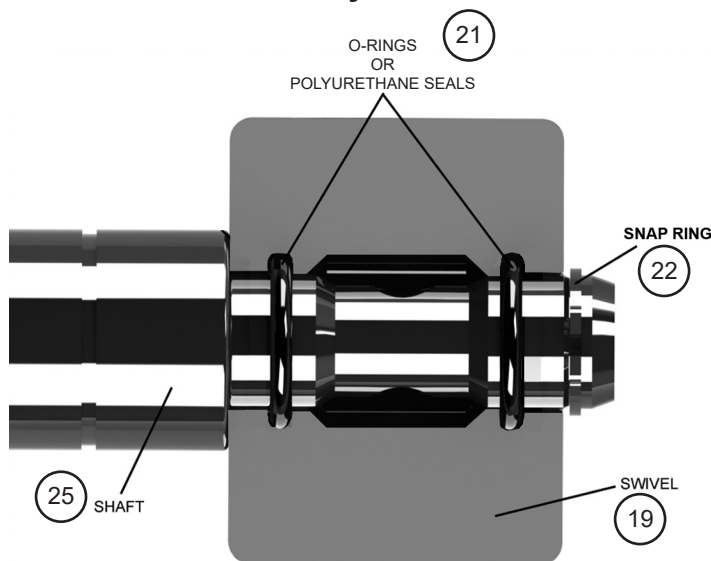

Figure 9
5. Remove the worn o-rings (low/medium pressure reels) or polyurethane seals (high pressure reel). Clean the swivel and shaft. Inspect for wear and damage. Install the new o-rings/seals in the swivel (see figure 9). Grease the o-rings/seals.
- Rev. D - Removed item 20 (not used) and changed description of item 21 for grease reel models
- Rev. E - Changed figures 9, 11 & exploded view on page 10 to reflect current parts. Removed item 20 from parts list